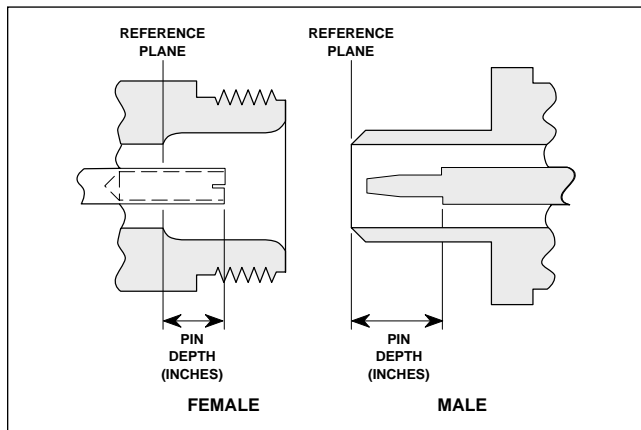
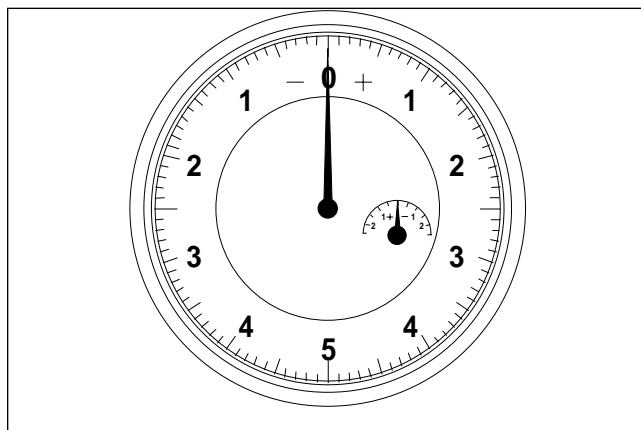

Figure 1. N Connector Pin Depth Definition
Figure 2. Pin Depth Gauge
a. Beware of destructive Pin Depth on Mating Connectors. Before mating, measure the pin depth (Figure 1) of the device that will mate with the adapter, using an ANRITSU Pin Depth Gauge (Figure 2) or equivalent. Based on adapters returned for repair, destructive pin depth of mating connectors is the major cause of failure in the field. When the adapter is mated with a connector having a destructive pin depth, damage will likely occur to the adapter connector. (A destructive pin depth has a center pin that is too long in respect to the connector's reference plane.)
The center pin of adapter connectors has a precision tolerance measured in mils (1/1000 inch). Connectors on test devices that mate with adapters may not be precision types and may not have the proper depth. They must be measured before mating to ensure suitability. When gauging pin depth, if the adapter connector indicates out of tolerance (Tables 2, 3, and 4) in the “+” region of the gauge (Figure 2), the center pin is too long. *Mating under this condition will likely damage the adapter connector.* On the other hand, if the test device connector indicates out of tolerance in the “-” region, the center pin is too short. While this will not cause any damage, it will result in a poor connection and a consequent degradation in performance.